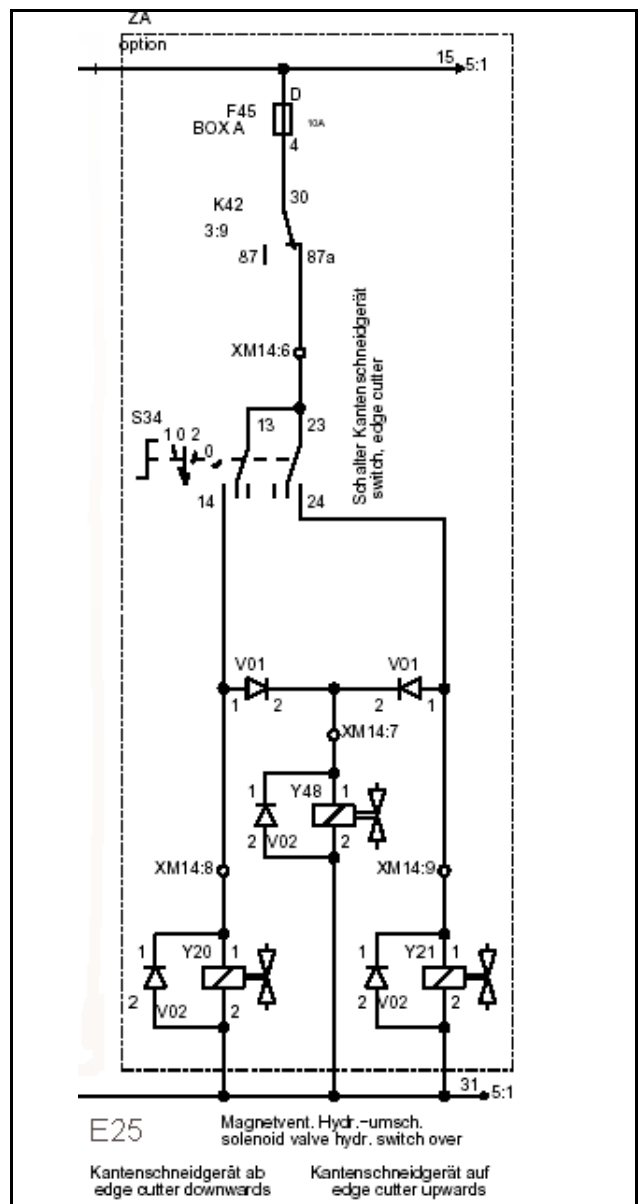

Fig. 3 Diode circuitry
- The solenoid valve Y48 (Fig. 3) is supplied with electric current when switch S34 is switched to position "1" or "2".